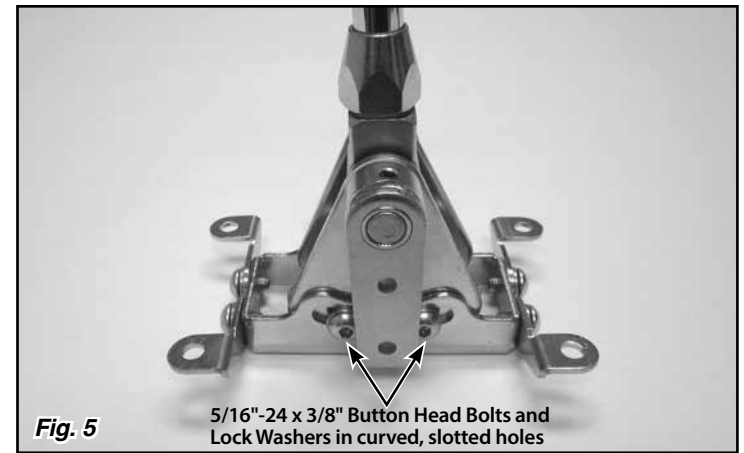

Fig. 5
Step 4: Make sure the two 5/16"-24 x 3/8" button head bolts with lock washers that are in the curved, slotted holes in the left side of the floor mount mounting bracket are tight. **Fig. 5** Place the shifter in the desired location. Make sure the shifter will not interfere with the dash when in Park, or with the seat when in low gear. The shifter assembly may be tilted forward or backward if needed by loosening the two button head bolts that are in the curved, slotted holes in the left side of the floor mount mounting bracket. Retighten the button head bolts in the curved, slotted holes once you have the shifter assembly at the angle you want.
Double check to make sure that the bolts in the curved, slotted holes on the **left** side of the floor mount mounting bracket are tight. **Fig. 5**